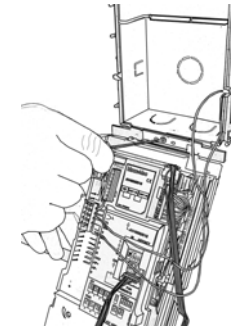

Fig. 10
4.8 REALISER LES BRANCHEMENTS DE L'INSTALLATION AVEC LA PLATINE BASCULEE VERS L'AVANT (FIG. 10 PAGE 84).